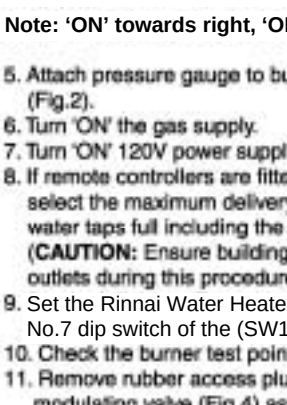

Fig. 3
- Set the Rinnai Water Heater to 'Forced Low' combustion by setting No.7 dip switch of the (SW1) set of dip switches to 'ON'. (Fig.3).